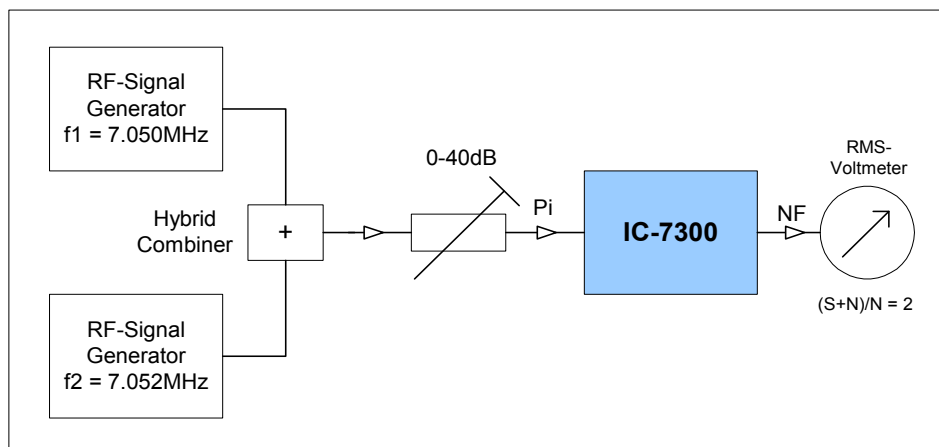

Figure 6: Test setup for IMD measurement
To determine the IMD3 power level, an RF 2-tone signal is used as standard (**Fig. 6**) (2). Two equally large, closely-spaced RF signals ($f_1 = 7.050\text{MHz}$, $f_2 = 7.052\text{MHz}$), are applied to the RF input of the receiver and their level is increased until the unwanted IMD3 interference at $(2f_1 - f_2)$ and $(2f_2 - f_1)$ reaches the same level as the receiver noise floor, corresponding to 3dB above the noise floor. The difference between input level (P_i) and noise floor (MDS) gives the IMD-free dynamic range (DR3) of the receiver. This value is also termed IFSS (Interference Free Signal Strength), VA70J/AB40J.